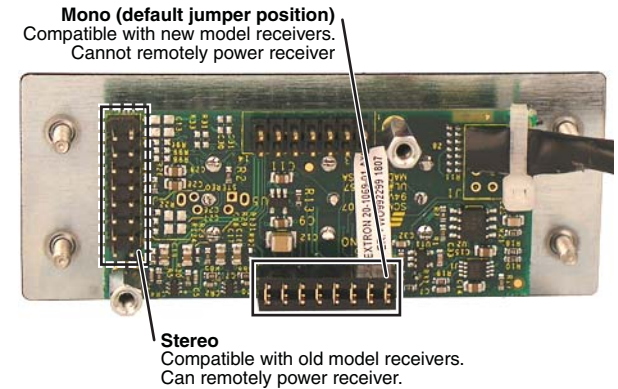

Figure 2-7 — Video board jumper locations
4. Locate the jumper block (figure 2-7) on the video board. Shift the jumper to the alternate location.